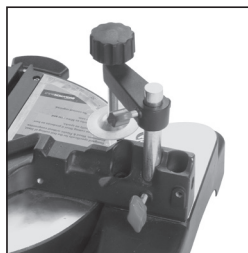

FIG. 7
4. Fitting the Hold Down Clamp (Fig. 7)